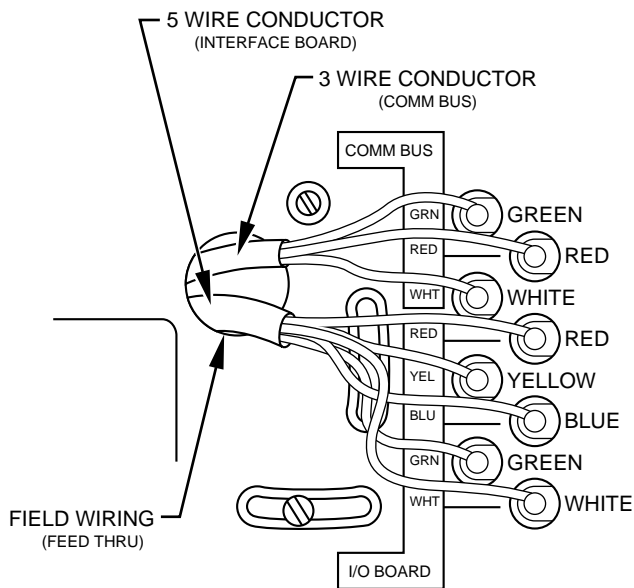

Fig. 17—Wiring Four Zone Controller A93231
2. Pull 3-wire cable for communication bus and 5-wire cable for controller through 3/4-in. round hole on base plate. Three-wire cable and 5-wire cable must be separate jacketed wiring. Do not use one 8-wire cable. (See Fig. 17.)